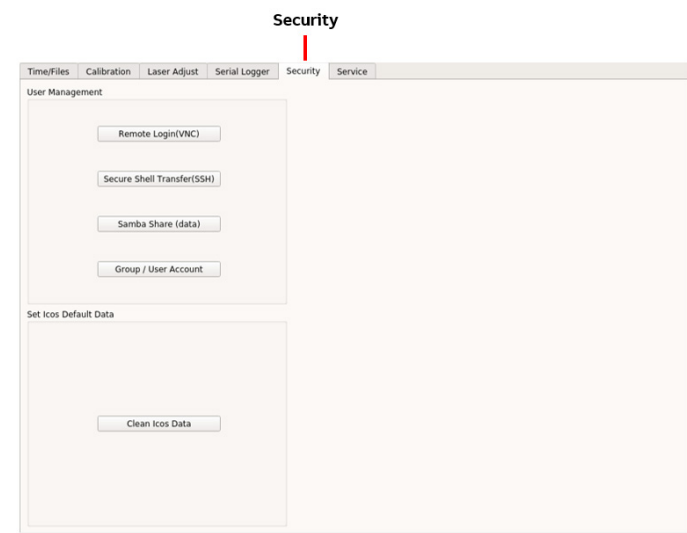
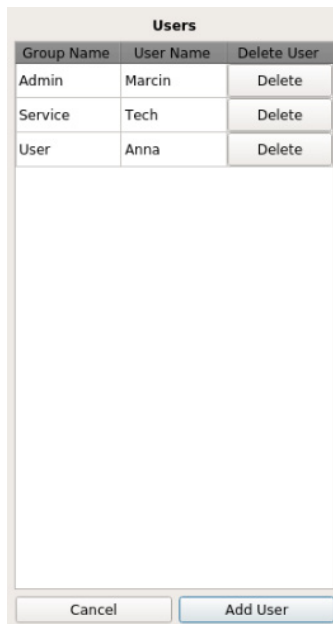

Figure 39 Security Screen
Figure 46 Group/User Dialog-Box
Click **Setup** on the *Control Bar* (Figure 21), then click the **Security** tab to access the *Security* screen. (Figure 39) This screen lets you change security settings including changing passwords; adding, deleting, and assigning users; and returning the system to default settings. Returning to default settings restores default passwords, removes all users except *lgr*, and deletes all data.
- 2 Click **Secure Shell Transfer (SSH)**. (Figure 39) The *Change SSH Password* dialog-box appears. (Figure 44)
Click **Samba Share (data)**. (Figure 39) The *Change Samba Password* dialog-box appears. (Figure 45)
- 2 Click **Group/User Account**. (Figure 39) The *Users* dialog-box appears. (Figure 46)